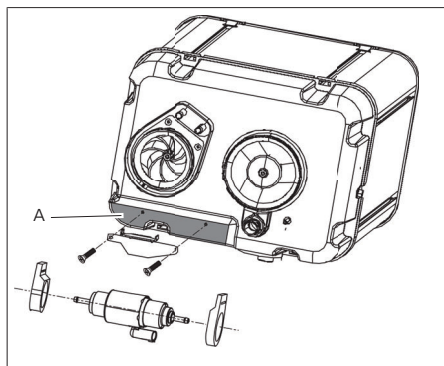

Fig. 28 Mounting location (A) for fuel pump on heater
Mounting the fuel pump on the heater (see Fig. 28, "Mounting location (A) for fuel pump on heater") is only allowed if the length of the fuel line's suction side does not exceed 4.6 ft (1.4 m).